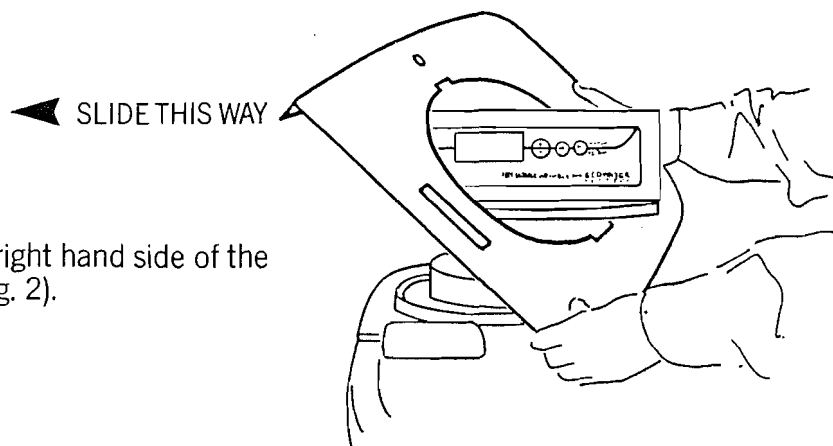

FIG. 2.
3. Hold the lid to the right hand side of the faceplate as shown (Fig. 2).